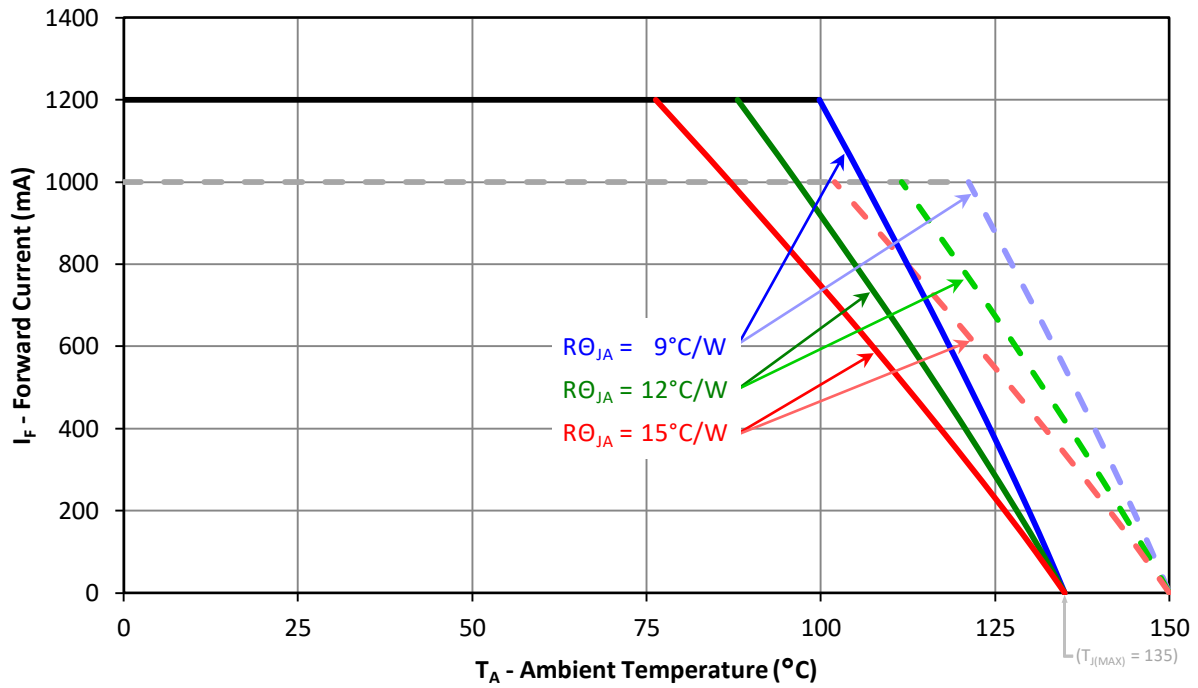

Figure 11: Maximum forward current vs. ambient temperature.
- Maximum DC forward current is determined by the overall thermal resistance and ambient temperature. Follow the curves in Figure 11 for current derating.
Notes for Figure 11: